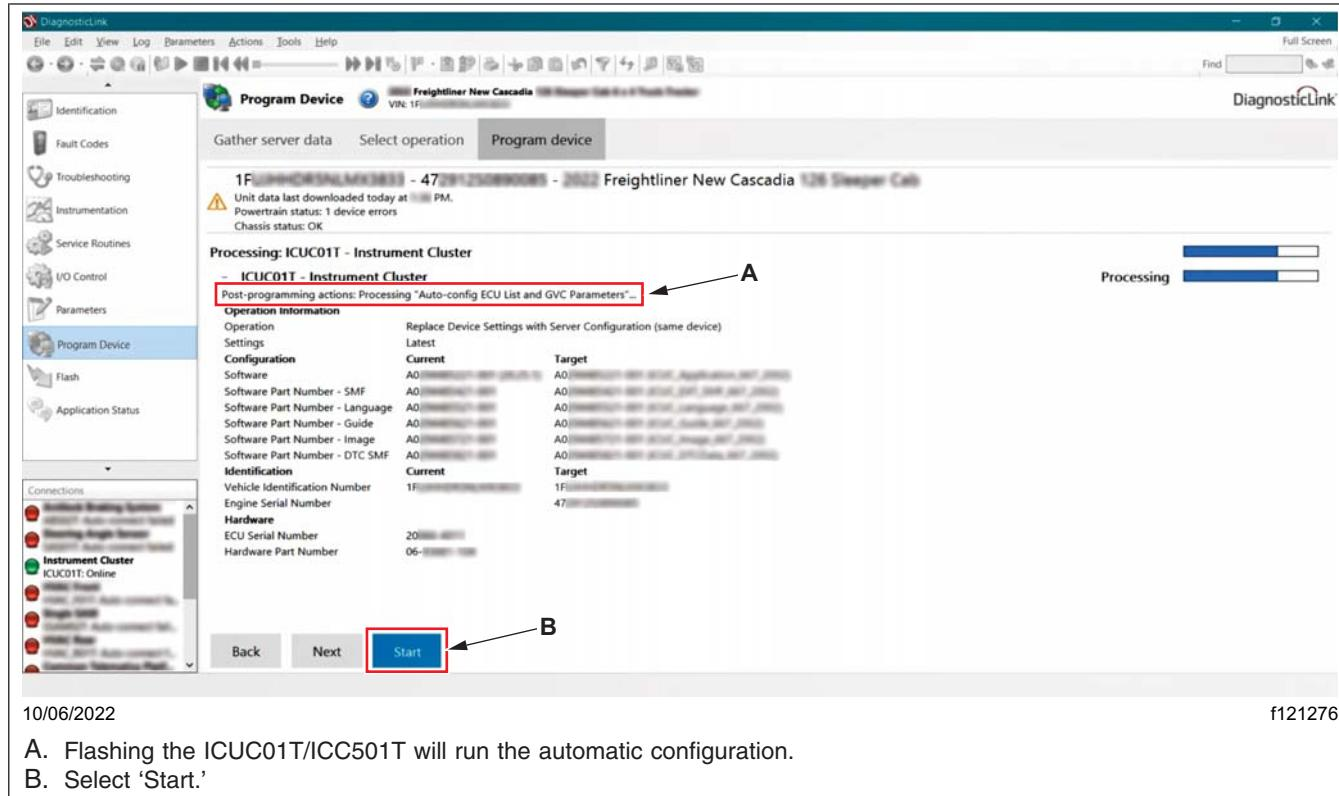

Fig. 20, Starting to Flash ICUC01T/ICC501T
24.4 Select 'Start' to start flashing the ICUC01T/ICC501T. See **Fig. 20**.